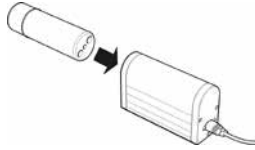

Fig. 12
3. Place the battery in the charging unit (see fig. 12). The battery is held in place by a magnetic force and will automatically align itself in the charger unit.